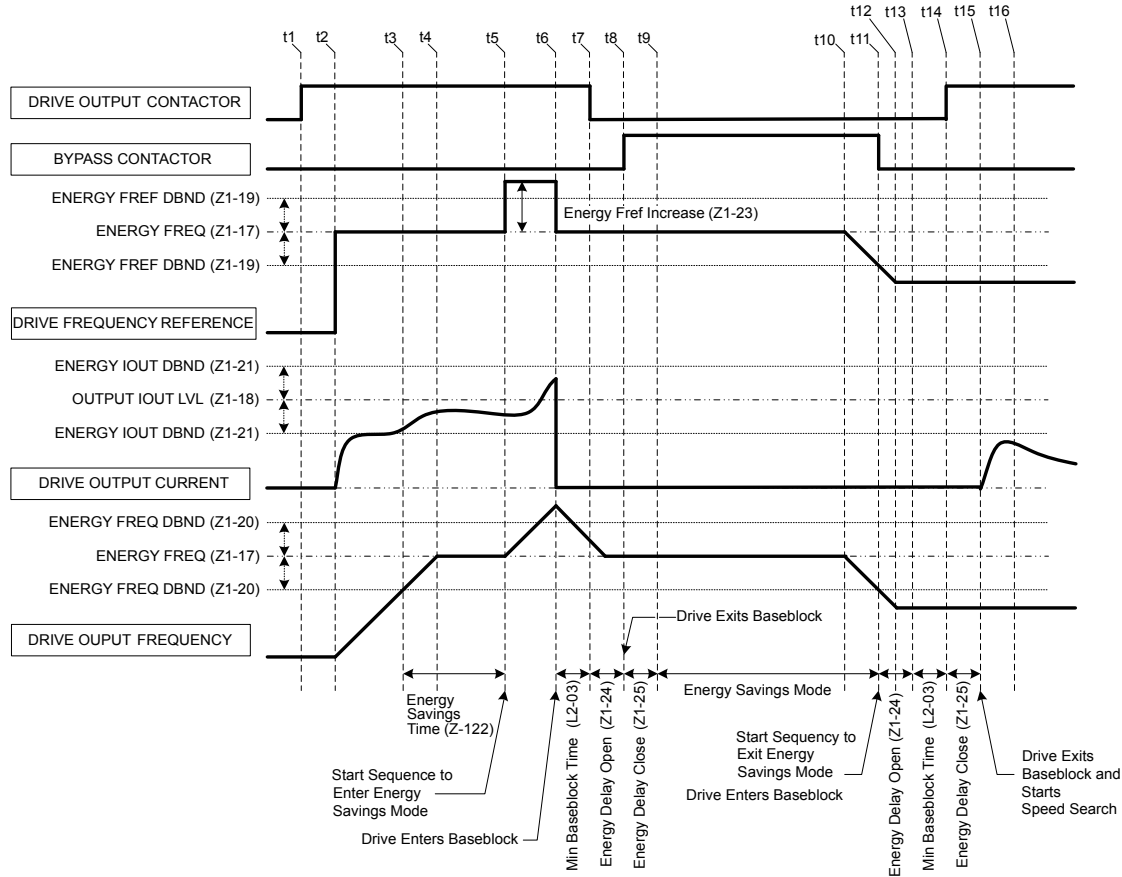

Figure 5.60 Drive Bypass Energy Savings Mode Sequence Example
7. Then the drive catches a spinning motor via Speed Search and follows frequency reference to take control. Refer to Figure 5.60 for an example of the sequence that is followed when entering and exiting the Energy Savings Mode.